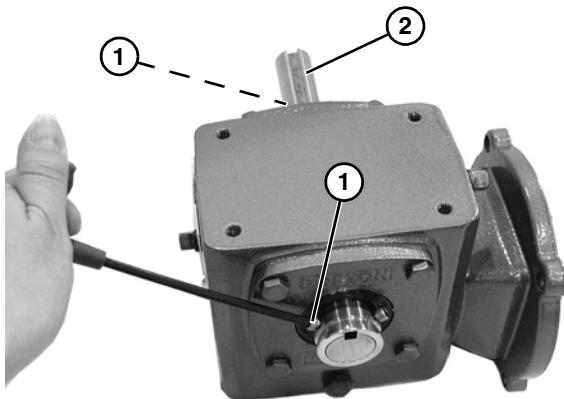

Figure 23
7. Use a hex key wrench to remove set screws on both bearings (Figure 23, item 1).
8. Remove gear reducer output shaft (Figure 23, item 2) and key.
9. Insert the new shaft (Figure 23, item 2) with key into new gear reducer.
10. Use a hex key wrench to tighten set screws on both bearings (Figure 23, item 1).